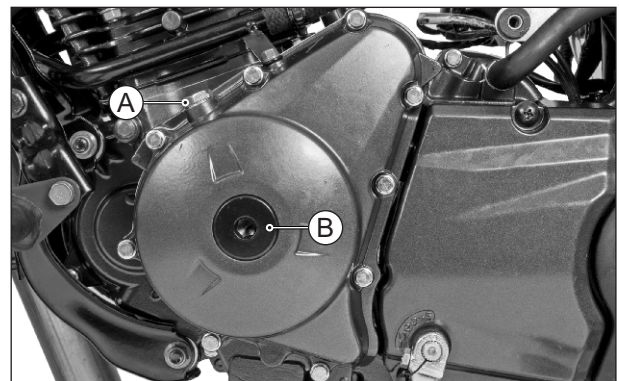

Fig. 3.74
- Remove plug TDC (A) along with the gasket. (Fig. 3.74)
- Remove plug crankshaft hole (B). (Fig. 3.74)